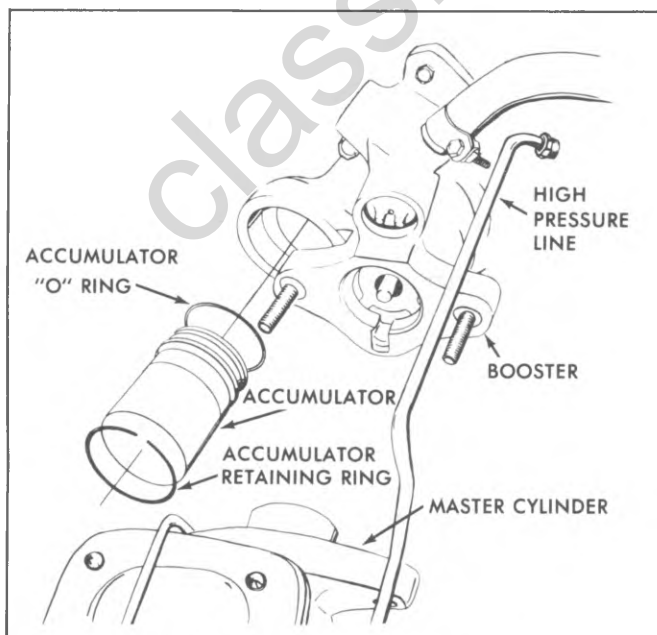

Fig. 5-58--Accumulator Installation
1. Using clean power steering fluid, lubricate accumulator seal. Install seal and accumulator in housing and then place the retaining ring over the accumulator (fig. 5-58). Place Tool J-26889 over accumulator.